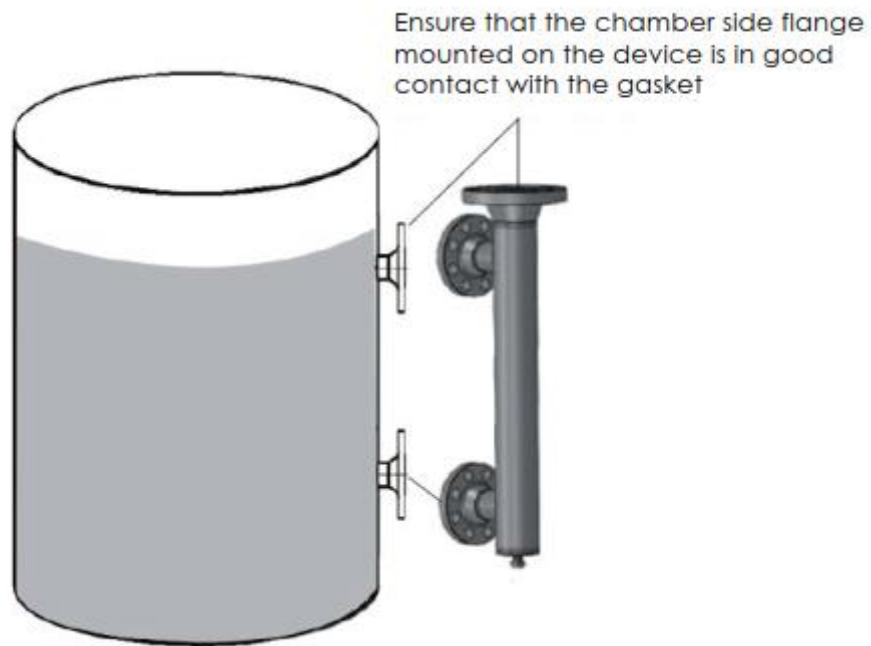

Figure 7-4
6.3.5 Install the outer cylinder side flange on the device, and ensure that the flange and the gasket are in good contact (Figure 7-4).